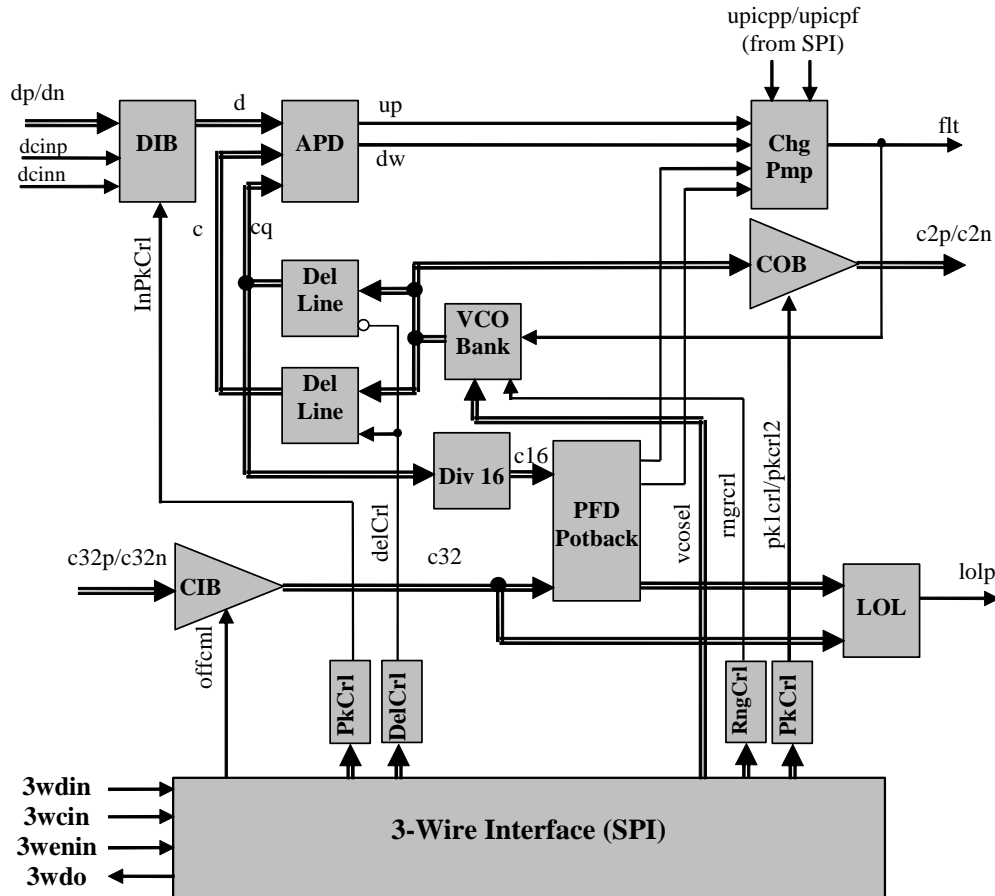

Fig. 1. Functional Block Diagram
ASNT8161-KMF is a half-rate integrated clock recovery (CR) circuit. The IC shown in Fig. 1 covers a wide range of input data rates (f_{bit}) by utilizing its six on-chip VCOs (voltage-controlled oscillators). To reduce the physical number of control inputs to the chip, a shift register with a 3-wire input interface (SPI) has been included on chip. The SPI block provides all the digital controls for the chip. It also provides digital controls for digital-to-analog converters (DACs) that handle internal analog DC voltage adjustments.